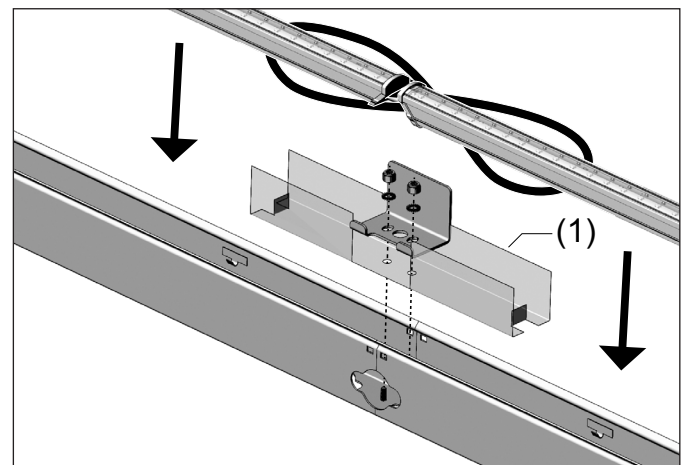

Figure 2
- Press LED lamps into the retaining clips inside of the supporting rail until they are locked in place (figure 2).
- In case of using light inserts of type LEDLUX LH: Place one of the delivered insulation foils (1) below each cable loop (figure 2)!